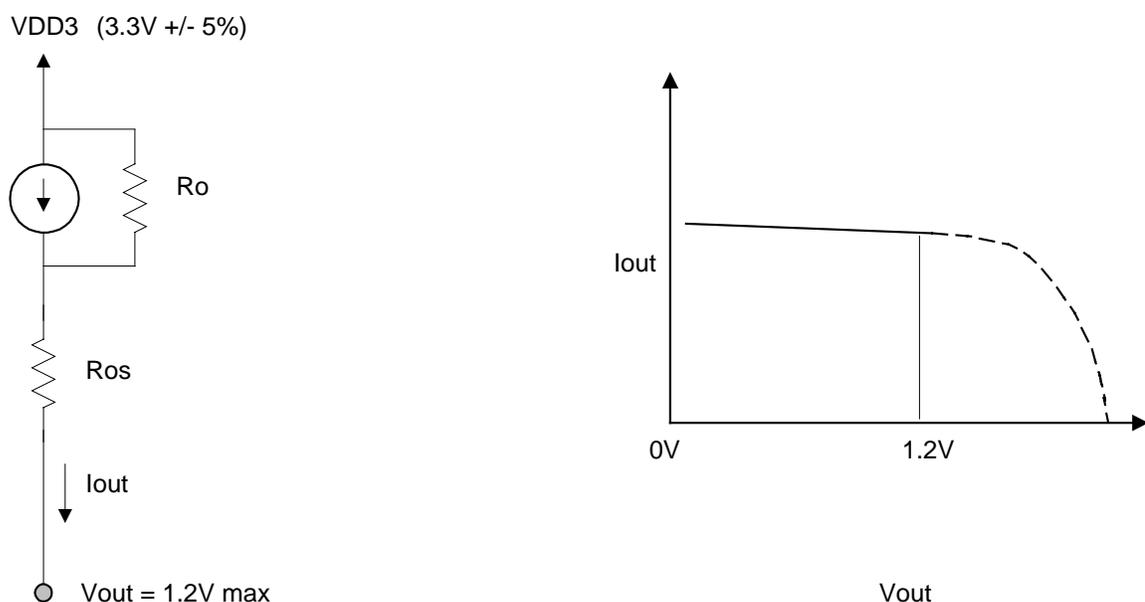

Figure 3
1. Output impedance of the current mode buffer circuit -  $R_o$  (see Figure 3).
2. Minimum and maximum required voltage operation range of the circuit –  $V_{op}$  (see Figure 3).
3. Series resistance in the buffer circuit –  $R_{os}$  (see Figure 3).